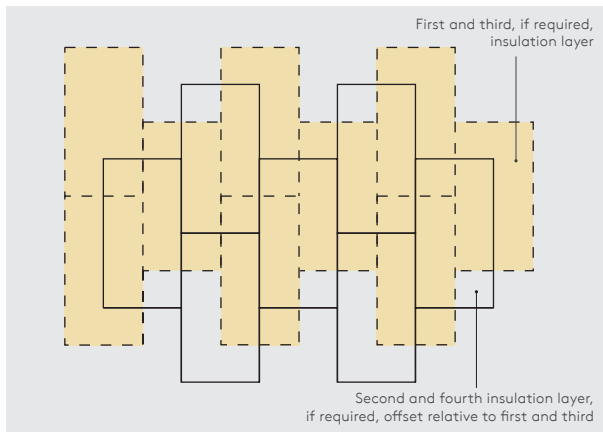

Figure 12 - Offsetting of multiple insulation layers
- If two or more layers of insulation are required, they should be horizontally offset relative to each other so that, as far as possible, the board joints in any two adjacent layers do not coincide with each other (see Figure 12).